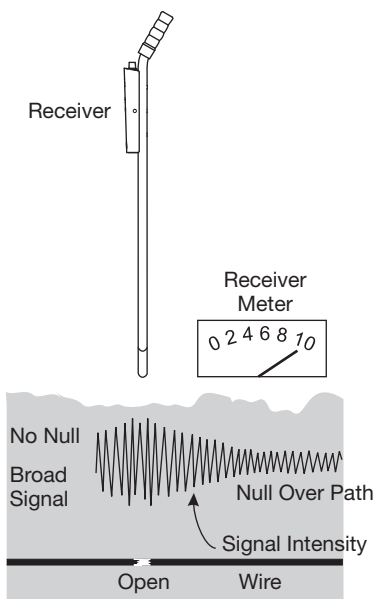

Figure 3 – Locating End of Broken Wire
- The end of a cut or broken wire can be located by following the path until the null disappears and gives way to a hot spot. Beyond the hot spot, no null can be detected. Back up until the null is detected, and this will be the approximate end of the broken wire. (Refer to Figure 3.)